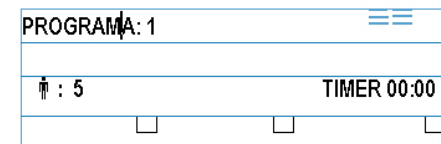

Fig. 1
1. Put the MN-8000 on the bed as described in Fig. 1.
2. Connect the 3 body thermoheating subsections (9) to the working console.
3. Connect the input cable to the working console (11) and the socket.